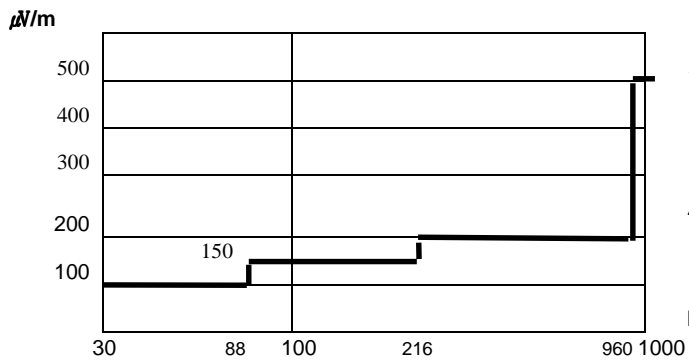

Fig. 5. Limits at 3 meters
2. The radiated limits are shown on Figure 5.